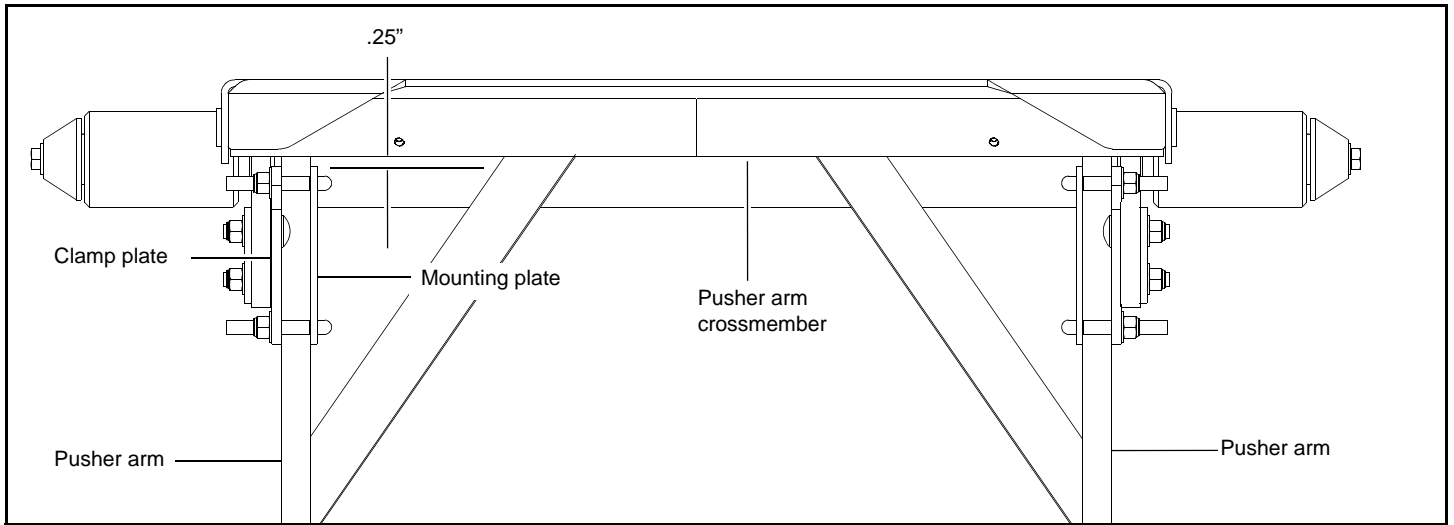

FIG. 2
**NOTE:** The front edge of the plates should be .25" from the pusher arm crossmember as shown. Fig. 2